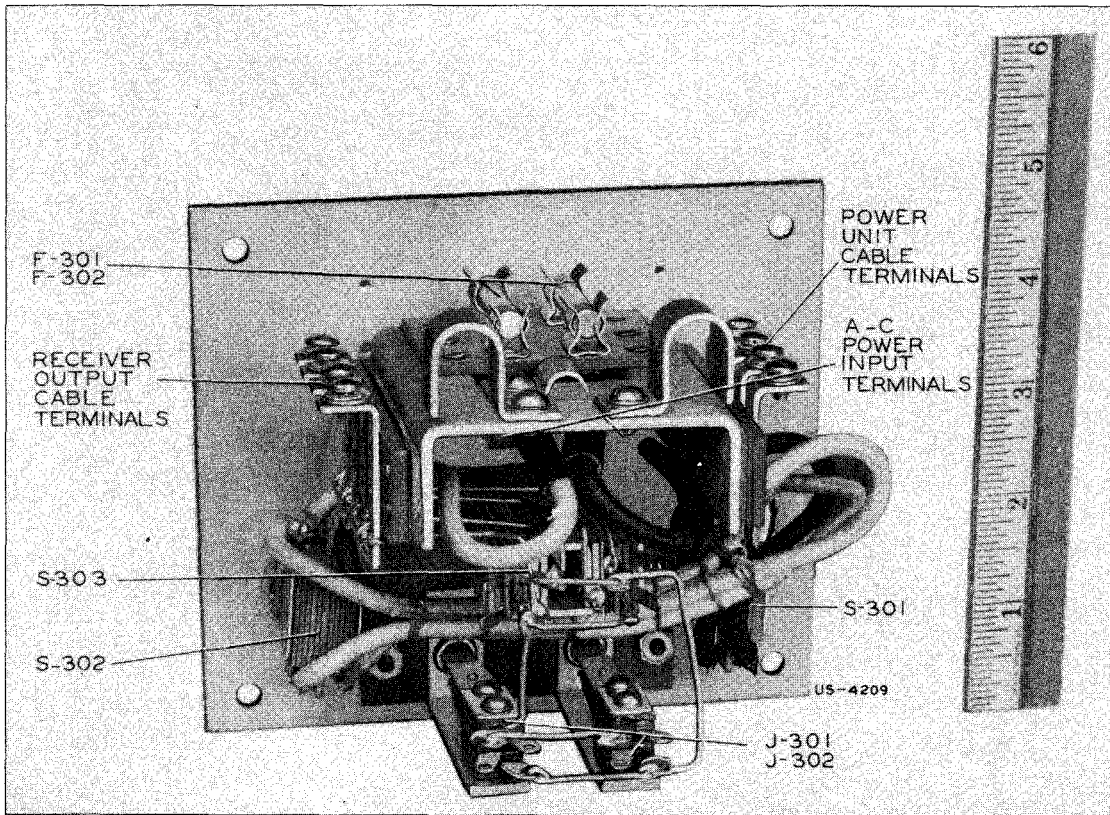

Figure 5—Control Unit CRV-23073 (Rear View of Panel)
8.4-1 The control unit contains output jacks, mixer switch, and power switches mounted on the panel. (See Figure 5.) Fuses and terminal boards are mounted on a bracket secured to the panel. The case may be permanently mounted to any flat surface (see Figure 14).
- 9.6 Control Unit CRV-23073 (see Figure 5) is shown schematically in Figure 18. The use of this control unit makes possible the guarding of two channels simultaneously. The output of each receiver feeds into the control unit where a 3-position switch is provided which makes available, in the two headphone jacks, signals from either or both of the receivers. Two power switches also are provided on the control unit panel for controlling the power to each receiver independently. The a-c power supply feeds into the control unit and each side of the line is fused. The two supply cables connect to suitable terminals on the power units, which terminals are arranged to omit from the circuit the switch and the fuses in the power unit.